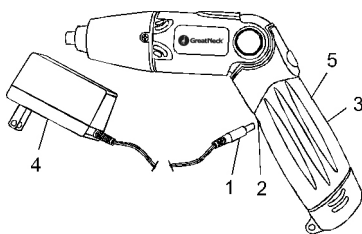

Fig. 1
2. Insert the battery charger plug (1) into the charger receptacle (2) in the handle of the cordless screwdriver (3) (Fig. 1).
3. Plug the battery charger (4) into a 120 V 60 Hz wall receptacle.